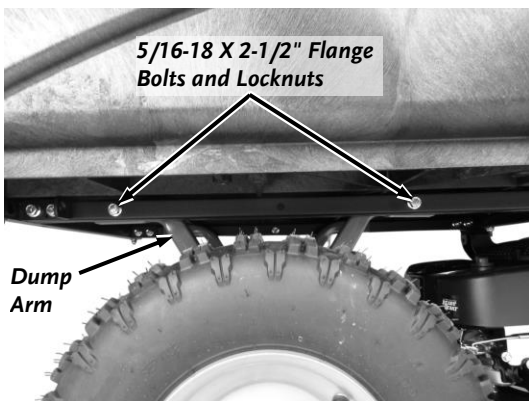

Figure 11
3. Secure the Bed Frame to the Dump Arms with four 5/16-18 X 2-1/2" Flange Bolts and Locknuts using a 1/2" Wrench and 1/2" Socket with Ratchet and Extension (**Figure 11**).